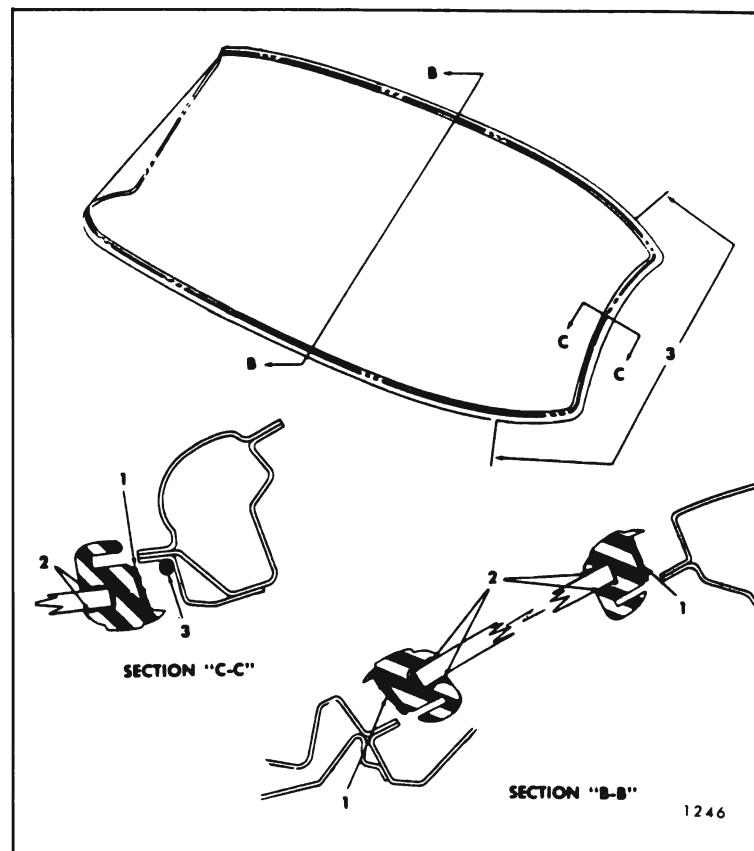

Fig. 3-17—Sealing Of Windshield Glass And Channel
- d. Apply a ribbon of medium-bodied sealer completely around base of rubber channel as indicated in Figure 3-17, Item #1.
- e. Apply a bead of medium-bodied sealer, approximately 1/4" in diameter to corner of windshield opening rabbet around each side of windshield for distance indicated in Figure 3-17, Item #3.
- h. Using a pressure type applicator, seal inner and outer lips of rubber channel to glass with an approved weatherstrip adhesive as indicated in Figure 3-17, Item #2. Seals are to extend completely around rubber channel.